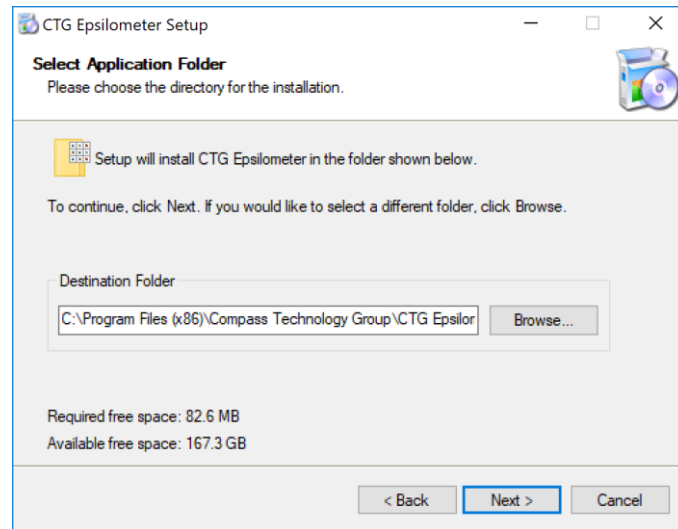

Figure 3. Selecting Destination Folder
4. Click "**Next**". Select a folder destination for CTGEpsilon software to be installed on computer and click "**Next**" button. (Figure 3.)